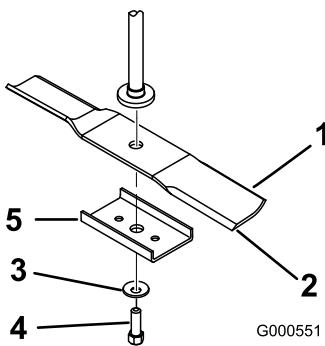
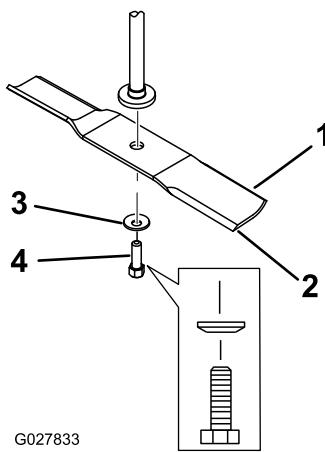

Figure 49
Figure 50
- Remove the blade stiffener (32-inch decks only), blade bolt, the curved washer, and the blade from the spindle shaft (Figure 49 and Figure 50).
1. Install the blade onto the spindle shaft (Figure 50).
2. Install the blade stiffener (32-inch decks only), the curved washer (cupped side toward the blade), and the blade bolt (Figure 50).